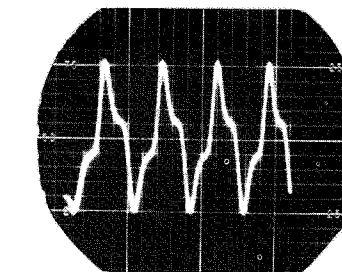

Figure 2.
- Adjust the 1000 cps input signal to 1.5 volt. This should drive the IDC circuit into full clip. See Figure 2.
(2) With this input signal level adjust the IDC control on the transmitter to provide a peak-to-peak recovered signal on the oscilloscope of 10 squares, which is equivalent to ± 5 kc deviation as shown in figure 2. A wide-band system should be adjusted for 30 squares (± 15 kc). If the waveform under the above conditions does not resemble the waveform shown in figure 2 adjust L101 until a symmetrical waveform is obtained. Re-adjust the IDC control.
(3) Reduce 1000 cps input to 0.3 volt. Essentially full deviation should still be observed on the oscilloscope. Less than full deviation may indicate a weak audio transistor or other lack of audio gain.
- Adjust the 1000 cps input signal to 1.5 volts. This should drive the IDC circuit into full clip. See Figure 2.
- With this input signal level adjust the IDC control on the transmitter to provide a peak-to-peak recovered signal on the oscilloscope of 10 squares, which is equivalent to ± 5 kc deviation as shown in figure 2. If the waveform under the above conditions does not resemble the waveform shown in figure 2, adjust L101 until a symmetrical waveform is obtained. Re-adjust the IDC control.